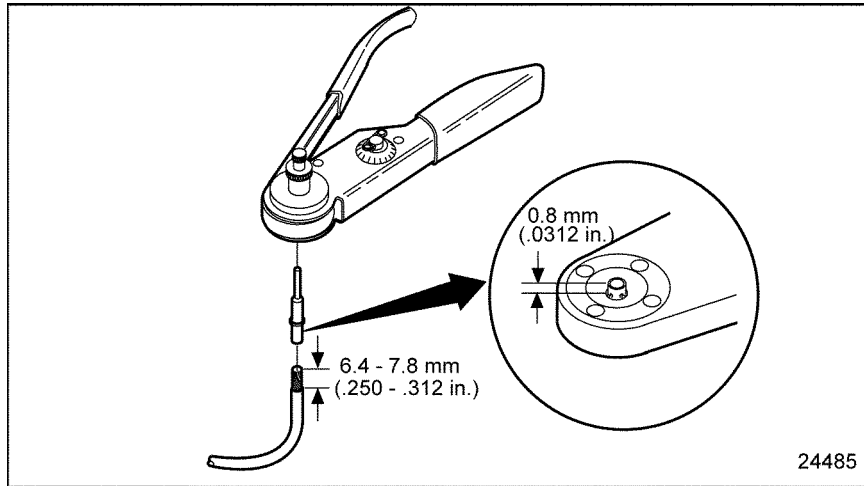

Figure 17-9 Setting Wire Gage Selector and Positioning the Contact
4. Position the contact so that the crimp barrel is 1/32 of an inch above the four indenters. See Figure 17-9. Crimp the cable.